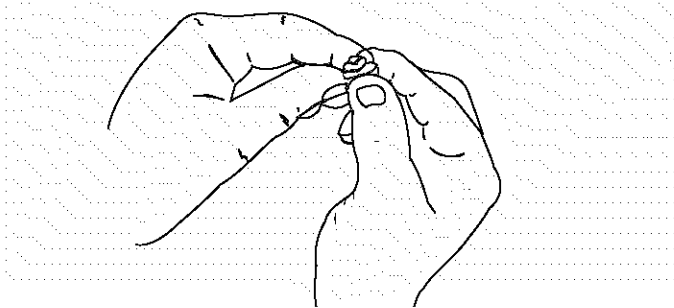

Fig. 40
- Squeeze the filter to spread and remove excess oil (Fig. 40).